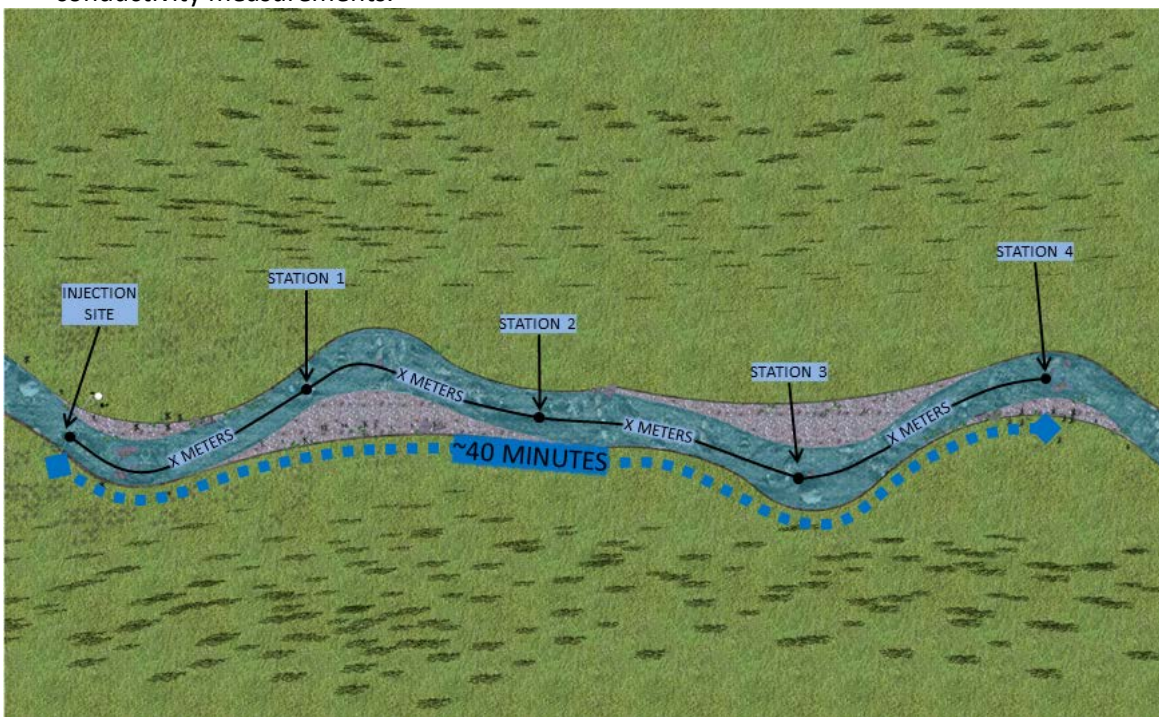

Figure 3. Schematic of stream reach with injection site and four downstream sampling stations. Travel time between Station 1 and 4 should be ~40 minutes.
- a) First, visit each of the four sampling stations (Figure 3), and at each station record four conductivity measurements from the stream thalweg (i.e. the main flow of the stream), for a total of 16 conductivity measurements (See Appendix A, Field Data Sheets). Make sure the hand-held conductivity meter is set on the temperature-corrected setting (the ‘°C’ should be flashing). If the setting is not correct, press the mode button until you enter the temperature-corrected mode. Wait for the meter to adjust to the stream temperature for more accurate conductivity measurements.
- n) Once the most DOWNSTREAM location has reached plateau, start sampling at the most UPSTREAM location (i.e., Station 1, the station closest to the injection site) and work downstream (Figure 3). The idea is that you are following a parcel of water as it moves downstream.